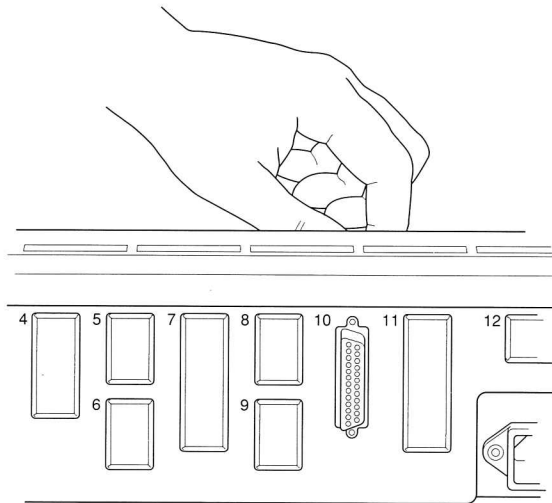

Figure 4-10 Positioning the connector
2. Hold the connector and nut plate up to one of the large openings in the back panel as shown in Figure 4-10. It's best to choose one of the openings near slot 1.